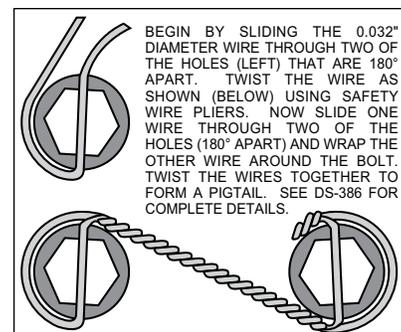

Figure 3. Safety Wire Diagram
•The axle bracket (1) and caliper mounting bracket assembly (2) should be installed first with clean, dry threads on the mounting bolts. Install the axle bracket (1) from the inboard side of the axle housing flange using the existing OEM bolts thread them into the four holes on the axle bracket (1). Next install the radial mount bracket (2) to the outboard side of the axle bracket (1) by sliding bolt (3) through washer (4), through the bracket (1) and place a shim washer (16) between the axle bracket (1) and radial mount bracket (2). The radial mount bracket (2) must tighten squarely against the outboard side of the axle bracket (1). Inspect for interference from casting irregularities, machining ridges, burrs, etc. Use one shim (16) between the axle bracket (1) and radial mount bracket (2) during initial trial fitting.
•With the larger I.D. side of the rotor (6) facing away from the hat (7), bolt rotor (6) to hat (7) through the backside of the rotor using washers (8) and bolts (9). Apply red *Loctite*® 271 to the bolt threads and torque to 155 **in-lb** using a criss-cross pattern. For an added measure of security, the bolts may be safety wired using standard 0.032 inch diameter stainless steel safety wire as shown in Figure 3. Please refer to Wilwood's data sheet DS-386 (available at www.wilwood.com/Pdf/DataSheets/ds386.pdf) for complete safety wire installation instructions.
•**NOTE:** To ensure proper clearance it is necessary to remove the torsion spring from the back side of the caliper. Caution should be used when handling springs. A compression spring (17) will be installed when installing the parking brake cable (see page 5).
•Slide the brake pads (15) up into the caliper (10) from the bottom until the "v" spring clip snaps into place against the anvil. They should install easily without interference.
•Install two shims (14) over each stud (13) on the radial mount bracket (2). Slide the caliper (10) in place over the studs and rotor and install the washer (12) and lock nut (11) to hold the caliper in place. The caliper bleed screw should be pointing toward the rear of the vehicle. Snug the lock nuts (11) and check that the caliper (10) is centered over the rotor (6). Add or subtract .016" shims (5) and/or .035" shims (16) as necessary between the axle bracket (1) and the radial mount bracket (2) to center the caliper (10) on the rotor (6).
•Check that the outside radius of the brake pad (15) is aligned with the outside diameter radius of the rotor face. Add or subtract shims (14) between the caliper (10) and radial mount bracket (2) to gain the proper alignment.